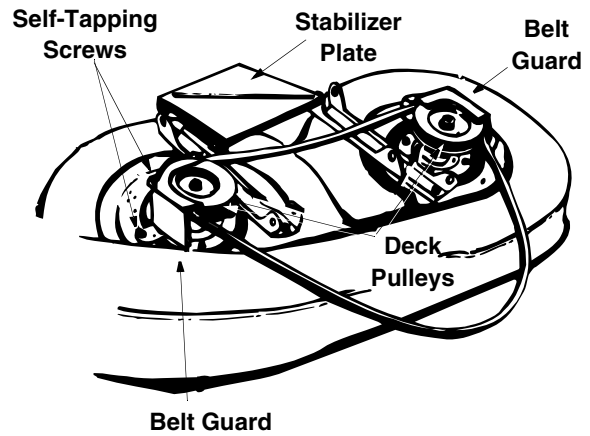

Figure 24
11. Remove the belt guards at each deck pulley by removing the self-tapping screws. See Figure 24.